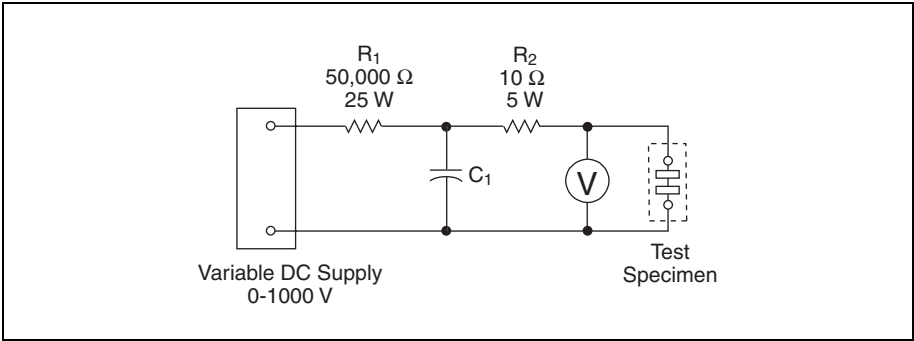

Figure 4.12 UL 497B Strike Voltage Breakdown Test
1. Strike Voltage Breakdown Test — Protectors are required to break down within the manufacturer’s specified breakdown range or within 10% of a nominal single breakdown voltage rating. (Figure 4.12)